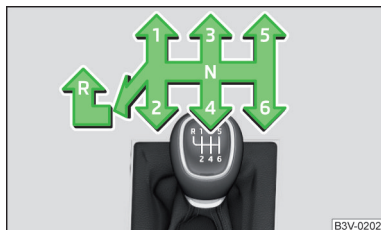

Fig. 157
The gearshift pattern for the individual gear positions is shown on the gear lever » Fig. 157.
- › Push the shift lever downwards fully to the left and then forward into **R**» Fig. 157.